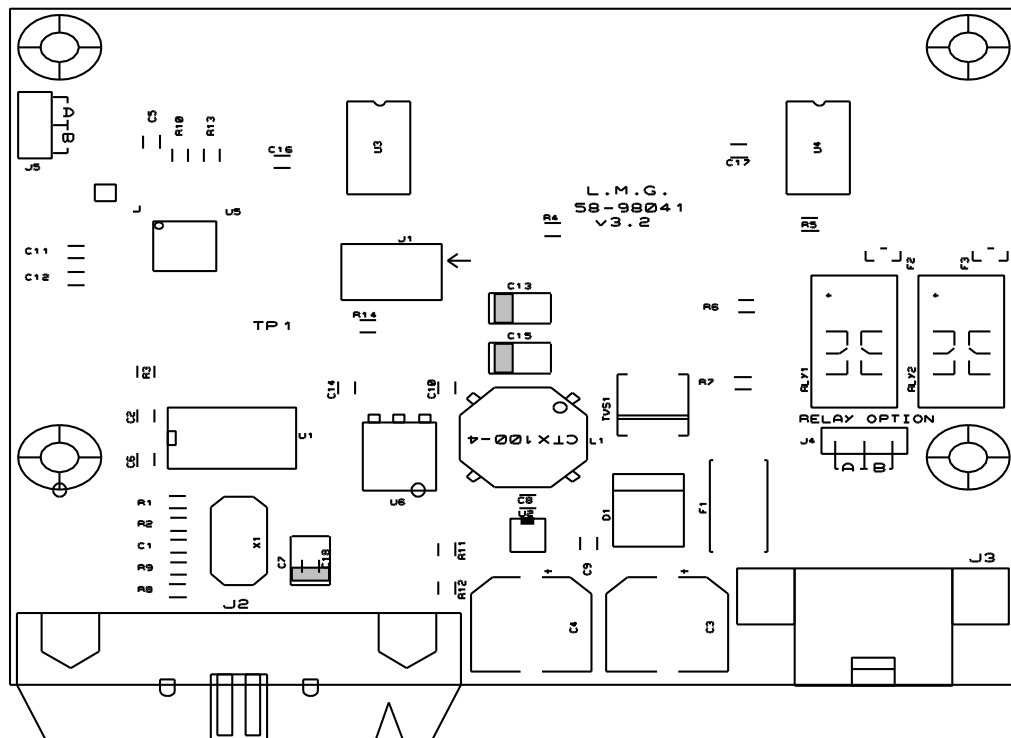

Figure 3 Jumper Locations
- #2) Remove the front cover to gain access to the circuit board. Locate J5 and place the shorting jumper on position “ B “. See Figure 3.